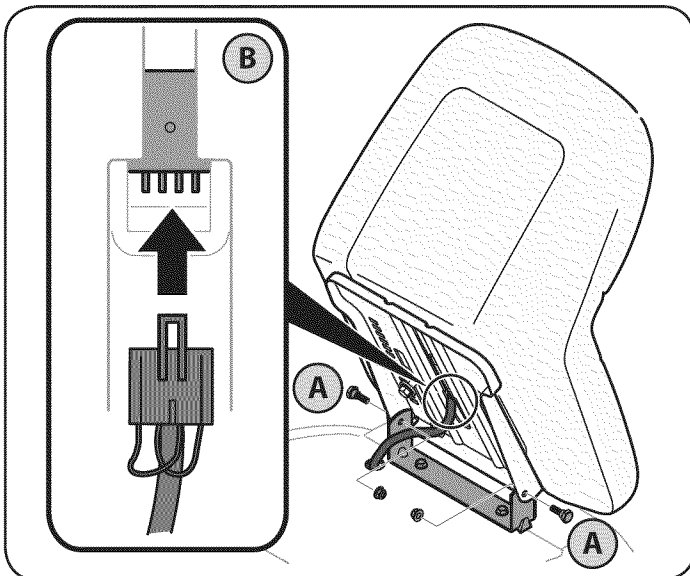

Figure 4
- Align the front holes of the seat mounting bracket with the holes in the seat pivot bracket on your tractor and secure with previously removed hex screws and nuts. See A in Figure 4.
- Plug the wiring harness into the seat safety switch in the bottom of the seat, as shown in B of Figure 4.